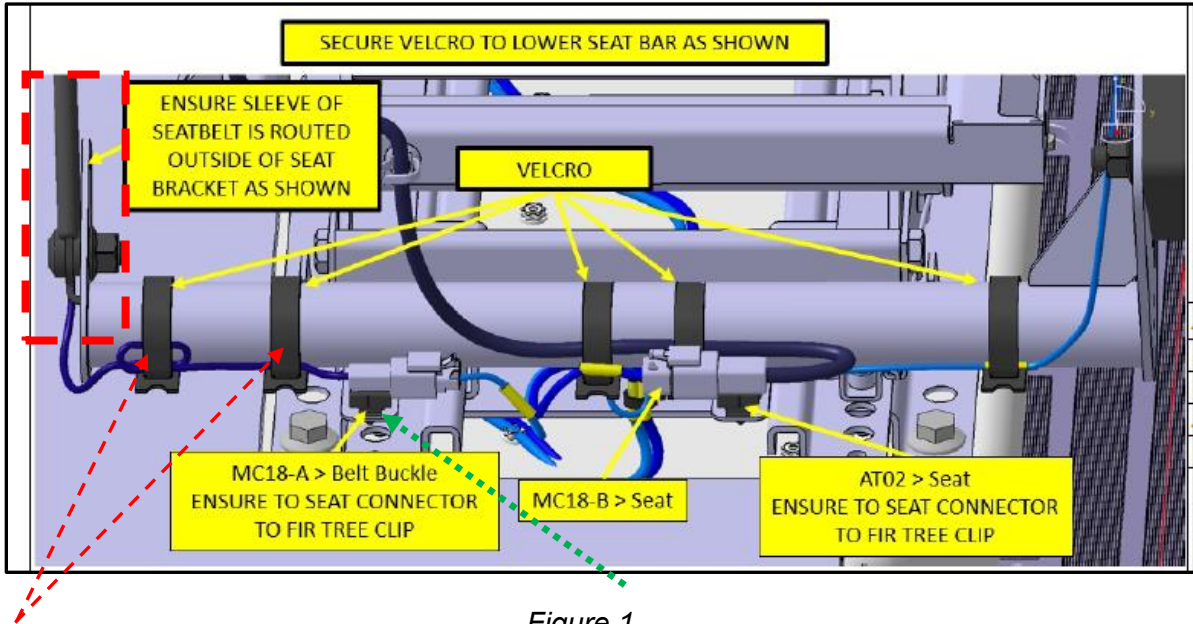

Figure 1
- a. Remove the T50 Torx bolt securing the seat belt to the seat by using an T50 torq bit and an 17mm wrench to secure the nut on the back side represented by the red-dashed rectangle in *Figure 1*. Discard the hardware as it is NOT re-usable.
- b. Disconnect the MC-18-A connector at the back of the seat as shown in *Figure 1*. Press down on the locking tab of the connector and pull the female portion of the connector towards the roadside of the vehicle.
6. Undo the 2 velcro straps that secure the wire harness to the seat frame. Only remove the 2 left Velcro straps noted by the red-dashed arrows as illustrated in *Figure 1*. Save the Velcro straps as they will be used in the reassembly of the new buckle/harness.
7. Disconnect old buckle/harness pigtail from the connector clip at MC18-A with a flat head screwdriver. This fir tree is noted in *Figure 1* with the green-dotted arrow.
8. Install the new Seat Belt Buckle by placing the bolt through the seat frame and hand tighten the nut on the back side as shown in *Figure 1* again using the 17mm wrench and the T50 6-lobed Torx bit.